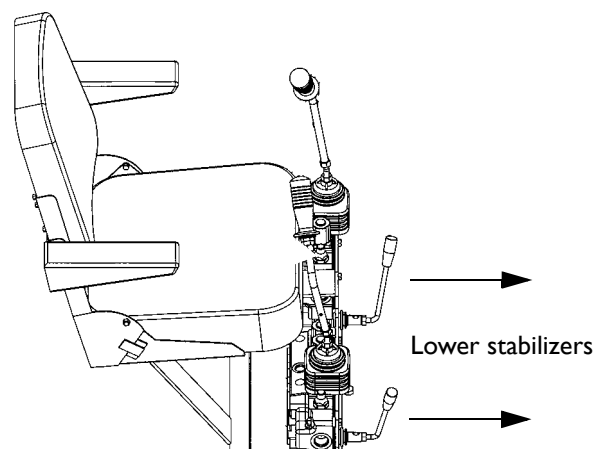

Figure 6
- The stabilizers are **lowered** by pushing and holding the stabilizer control levers **forward** from the neutral position (see *Figure 6*, below).